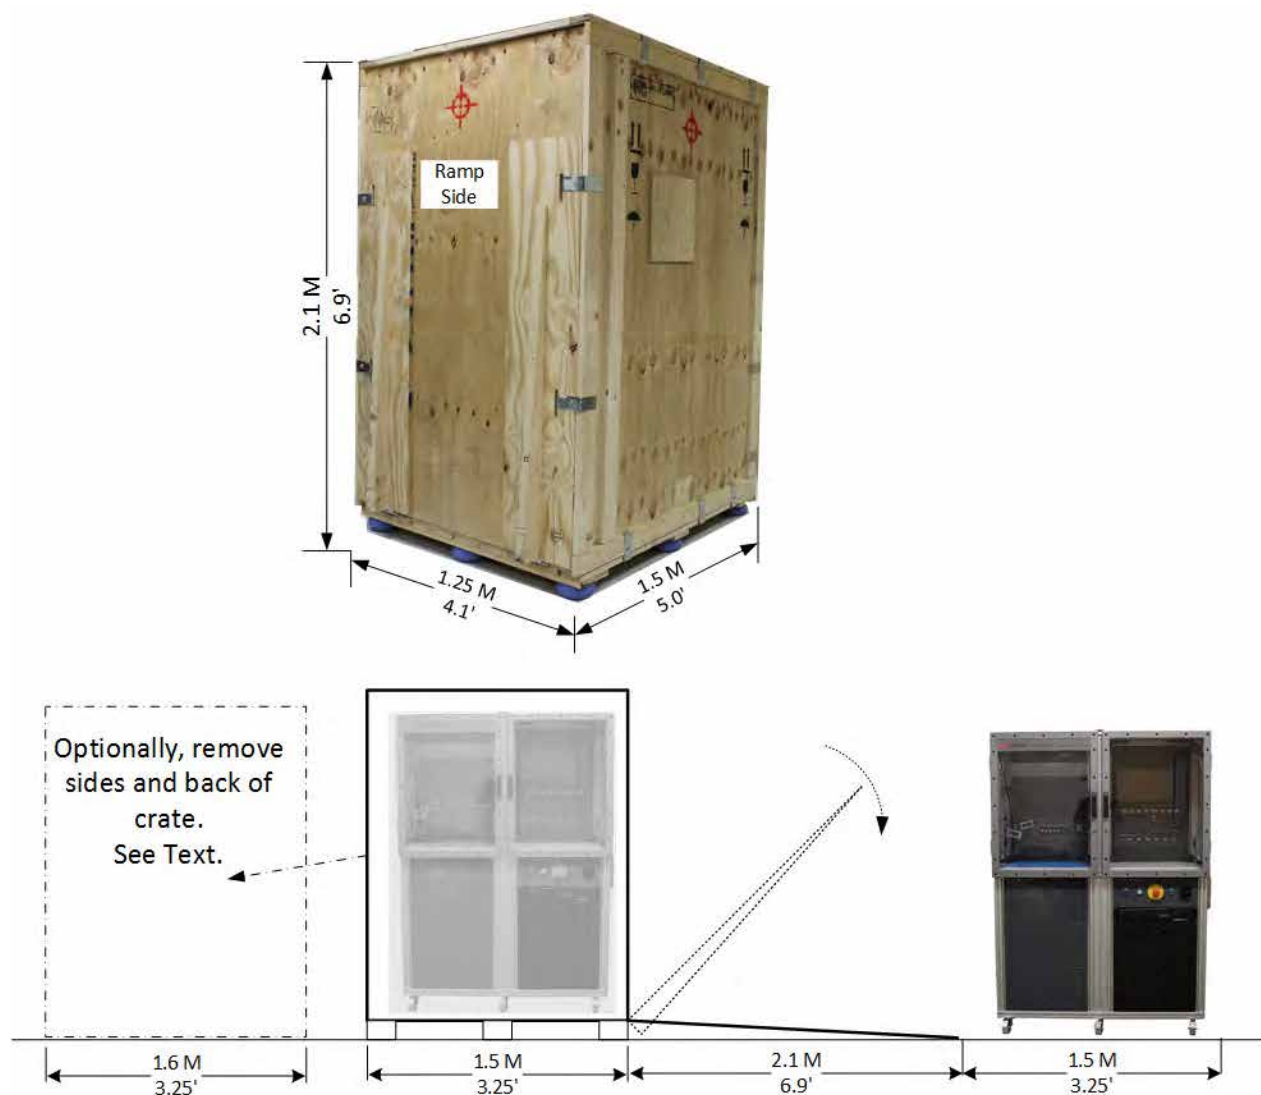

Figure 2 PD1550A Rack and Safety Enclosure Shipping Crate
- 1 Make certain you have adequate room to uncrate the Rack and Safety Enclosure. A minimum of 4 M (12 ft) is required in front of the crate (ramp+ Rack and Safety Enclosure), 2 M (6 feet) behind the crate, and 1 M (3 feet) above the crate. See Figure 2 below.